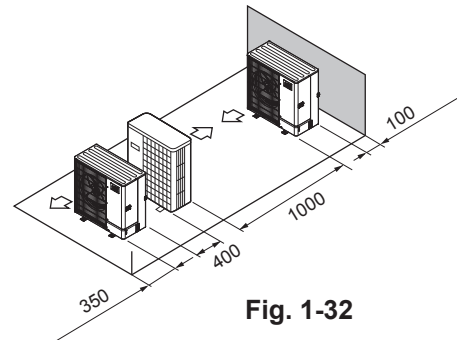

Fig. 1-32
- ⑤ Single parallel unit arrangement (Fig. 1-32)